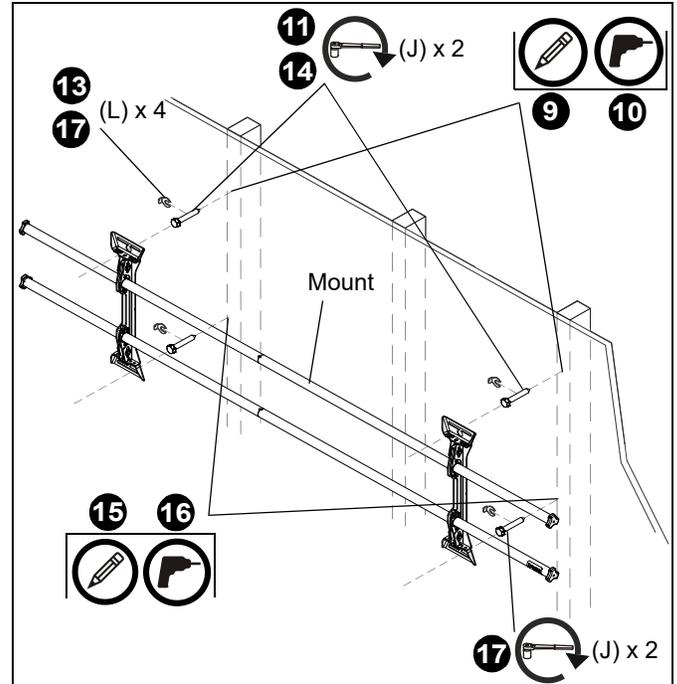

Figure 5
9. Using a level, mark the wall on each stud to attach the mount through the upper mounting slots. (See Figure 5)
11. Partially install two 5/16 x 2-1/2" flanged lag bolts (J) into pilot holes but do not tighten to wall.
12. Hang mount (Z), aligning upper mounting slots over lag bolts and adjust side-to-side for proper location.
13. Place one slotted washer (L) over each flanged lag bolt. (See Figure 5)
14. Tighten lag bolts to secure mount (Z) to wall at upper mounting slots.
15. Mark the attachment points for the lower mounting slots, making sure the attachment points are located on the studs. (See Figure 5)
16. Drill 7/32" (5.5mm) pilot holes at markings for lower mounting holes. (See Figure 5)
17. Use two 5/16 x 2-1/2" flanged lag bolts (J) and two 5/16" slotted washers (L) to attach the mount to the wall through the lower mounting holes. (See Figure 5)